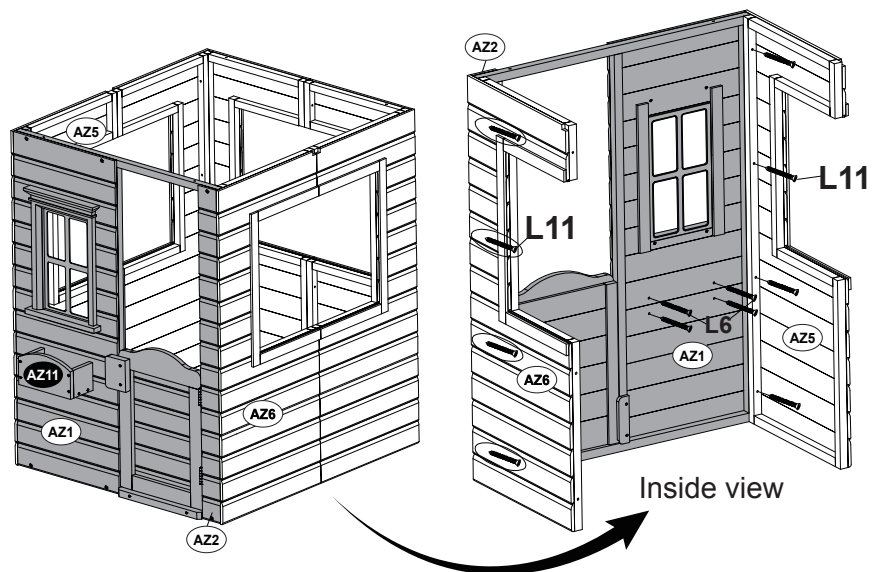

FIGURE 6
- Connect AZ11 to AZ1 using L6(4pcs) as shown in Figure 6.